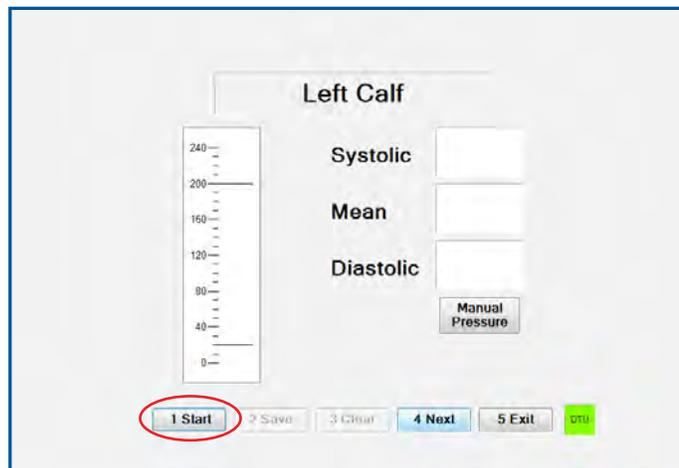

FIGURE 1.21 - Left Calf - “Start” Button
25. Segmental pressures follows the same process as pressures taken at the ankle locations. To begin, connect tubing to the Left Calf Cuff. Ensure the PPG probe is on the toe of the limb being tested (left Great toe). Click “Start” (Figure 1.21).